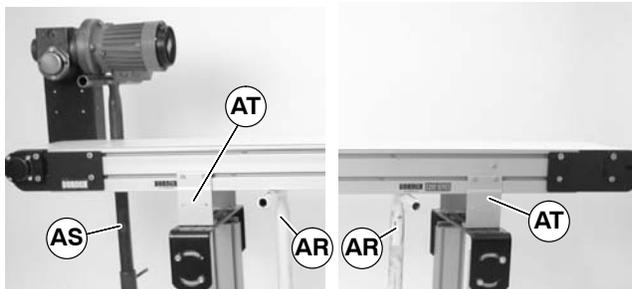

Figure 21
- Place temporary support stands (AR of Figure 21) at both ends of the conveyor. Place an additional support stand under the drive motor (AS), if equipped. See **WARNING**.
- Remove mounting brackets (AT of Figure 21) from one side of conveyor. (Reverse steps 3 & 4 of "Mounting Brackets" section on page 6).
1. Ensure temporary support stands (AR of Figure 21) are placed at both ends of the conveyor. Place an additional support stand under the drive motor (AS), if equipped. See **WARNING**.